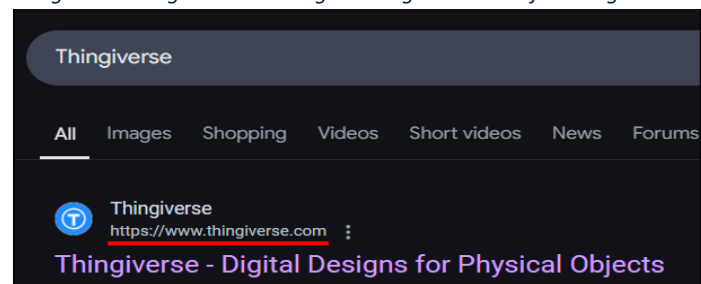

Figure 2: The search results for Thingiverse.
- 2) Navigate to <https://www.thingiverse.com>. (Figure 2)